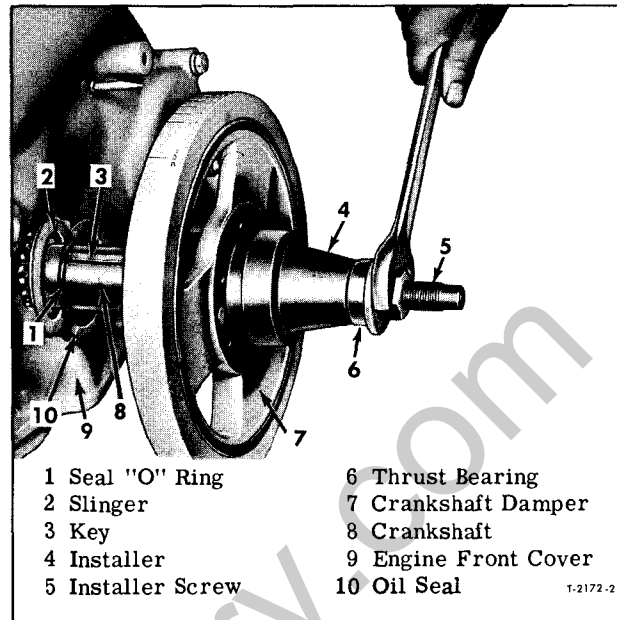

Figure 14—Installing Damper Assembly on Crankshaft with Special Tool Set
2. Align keyway in pulley with key in crankshaft, then start pulley or hub onto front end of crankshaft. Assemble special installer shown in figure 14, and turn nut with wrench to force pulley firmly into place on crankshaft.
1. Lubricate oil seal lip with engine oil, then turn engine crankshaft so key (3, fig. 14) is at top as shown.